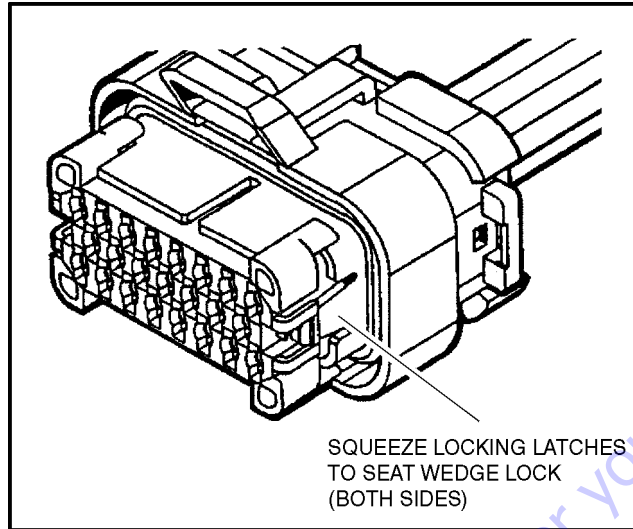

Figure 3-8. Connector Assembly (3 of 4)
3. After all required contacts have been inserted, the wedge lock must be closed to its locked position. Release the locking latches by squeezing them inward (See Figure 3-8. Connector Assembly (3 of 4)).